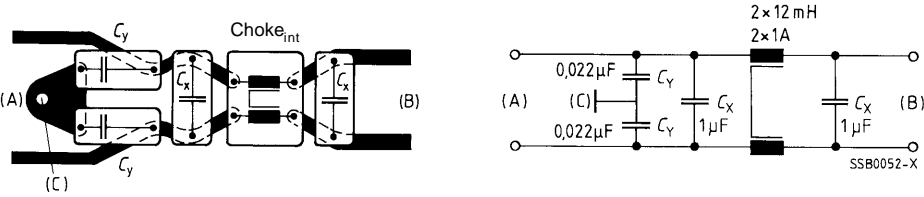

Fig. 8 Correct arrangement of filter components, e.g. on a PC board
- The components should be arranged along the lines (see example in figure 8) to avoid capacitive and inductive coupling between components and between filter inputs and outputs.